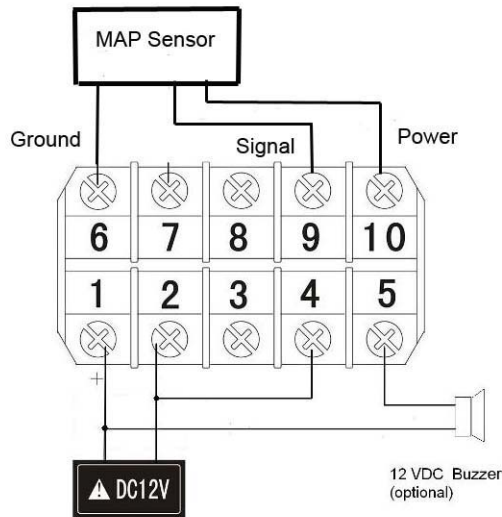

Fig 1. Wiring diagram.
1) Wiring the sensor as shown in Fig 1. Connecting power lead (red) to terminal 10, signal lead (green) to terminal 9, and ground lead (black) to terminal 6. The 12V DC buzzer is optional.